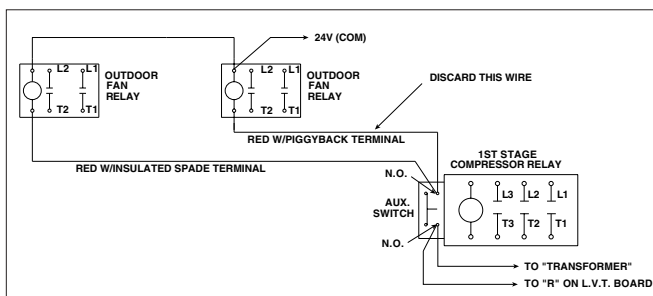

Figure 3a. R4GM-120* Factory Wiring
1. Remove the two "Red" outdoor fan low voltage control circuit wires (one insulated) from the top terminal of the side auxiliary switch on the STAGE 1 compressor contactor (See Figure 3a).